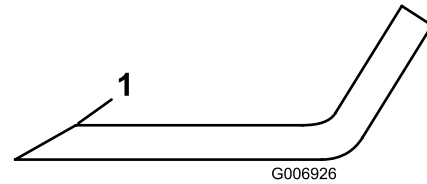

Figure 98
6. If dull or nicked, sharpen only the top cutting edge while maintaining the original cutting angle (Figure 98).
5. Inspect the cutting edges of all blades. Sharpen the cutting edges if they are dull or nicked. Sharpen only the top of the cutting edge and maintain the original cutting angle to make sure that it is sharp (Figure 98).